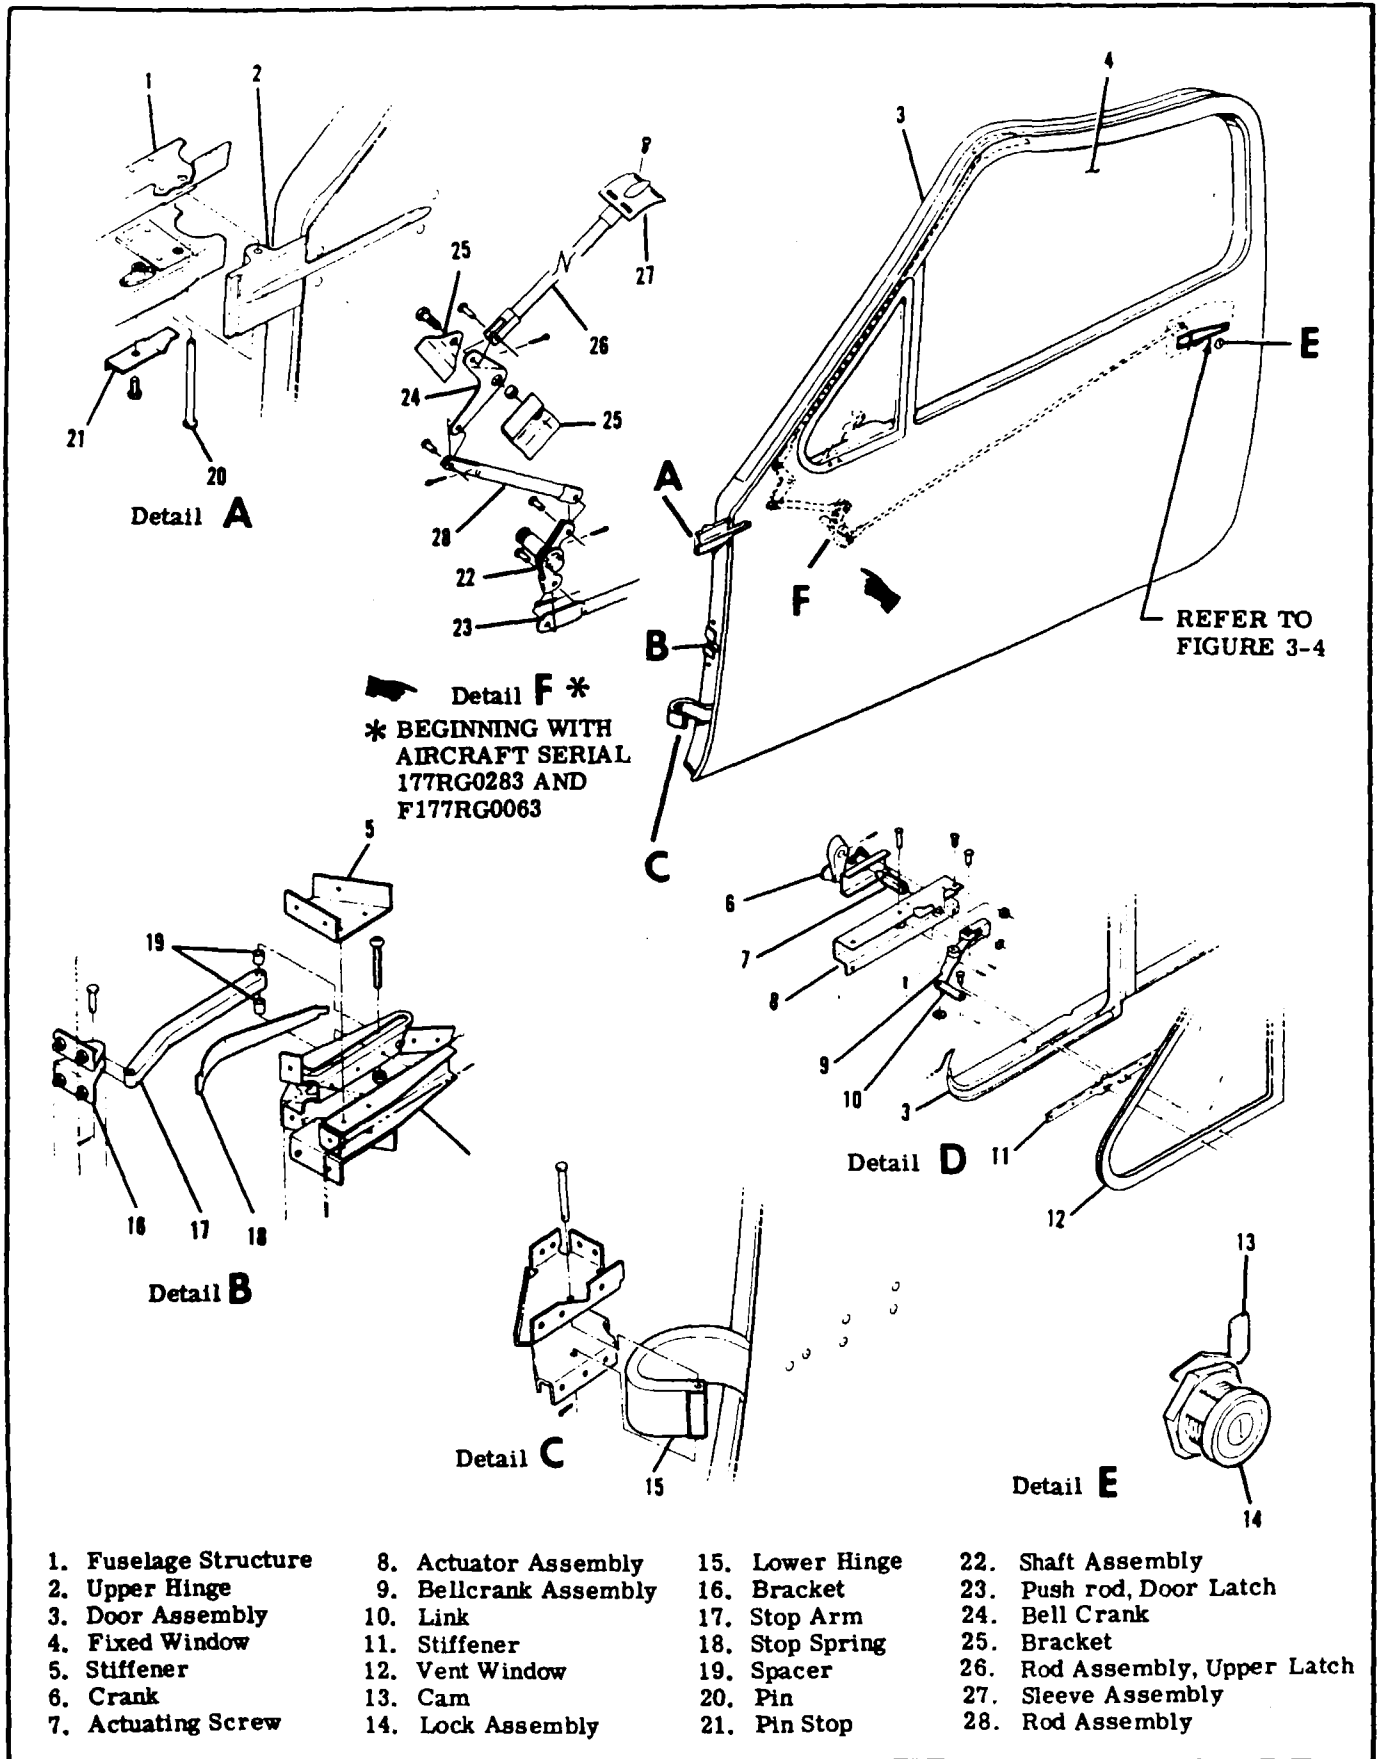

Figure 3-3. Cabin Door Installation
3-13. MOVABLE. (Refer to figure 3-3.) A movable window, hinged at the aft edge, is installed in the forward part of each cabin door. The window is operated by a crank on the inside of the door. A rubber seal is attached to the window frame. This seal should be sprayed periodically with MS-122 (18598) or equivalent to prevent adhering to the window. Confine the spray to seal do not overspray.
- b. DOOR WINDOWS. (Refer to figure 3-3.)
3-19. CABIN DOORS. (Refer to figure 3-3.)
3-23. LATCHES. (Refer to figure 3-3 and 3-4.)
3-24. DESCRIPTION. The cabin door latch is a push-pull bolt type, utilizing a rotary clutch for positive bolt engagement. As the door is closed, teeth on the underside of bolt engage gear teeth on the clutch. The clutch gear rotates in one direction only and holds the door until the handle is moved to LOCK position, driving bolt into the slot. Beginning with Aircraft Serial 177RG0283 and F177RG0063 a latching bolt has been added to the forward upper corner of the door. (Refer to figure 3-3.) Linkage connected to the inside door handle moves the bolt to engage a hole location in the door jamb, when the door handle is moved to the locked position.
Refer to Figure 3-3 for forward door latch installation.